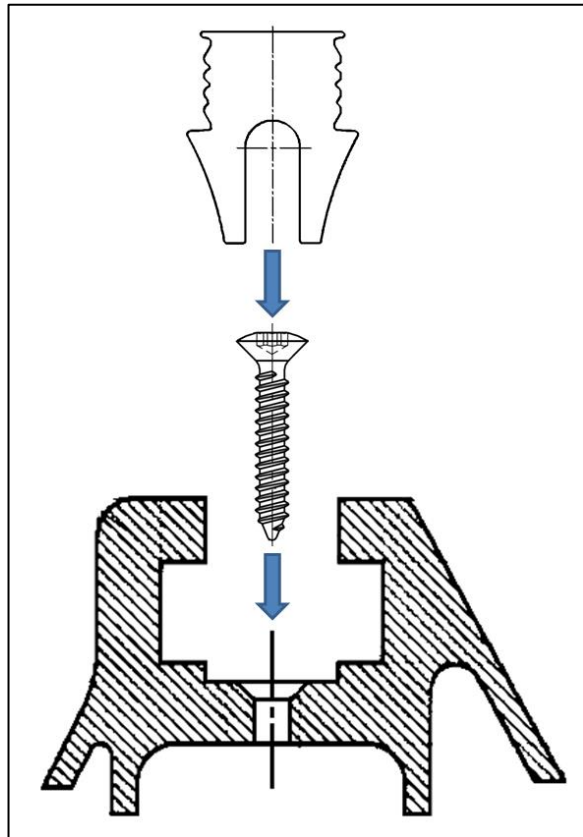

FIGURE 4
6. Install parts as shown in figure (Figure 4).